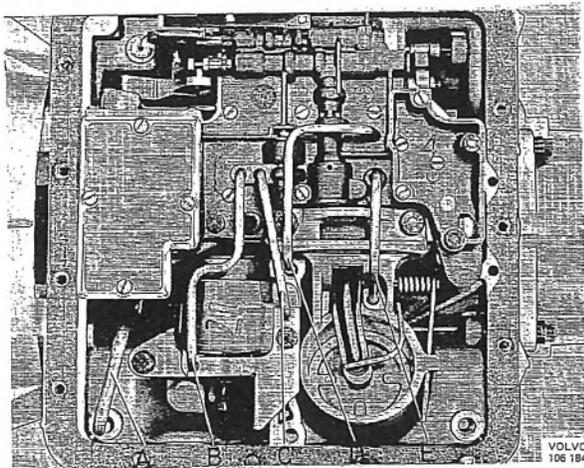

Fig. 4-71. Oil tubes
3. Unscrew the bolts for the oil pan and remove this. Lever out the oil tubes B-E carefully as shown in Fig. 4-71.